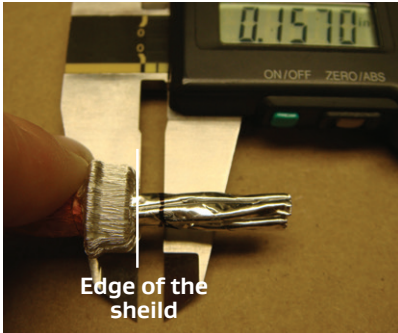

Figure 19: Marking the foil tape
8. Mark the foil tape of each twisted pair at 0.157 inches \pm 0.025 inches from the edge of the braid wire (Figure 19).